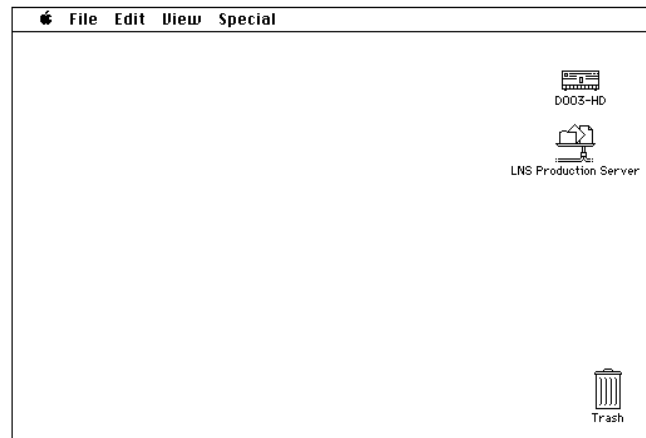

Figure 3
- 7.0 The "LNS Production Server" icon will appear. Position the mouse pointer on the icon and double click to open it. See Figure 3.